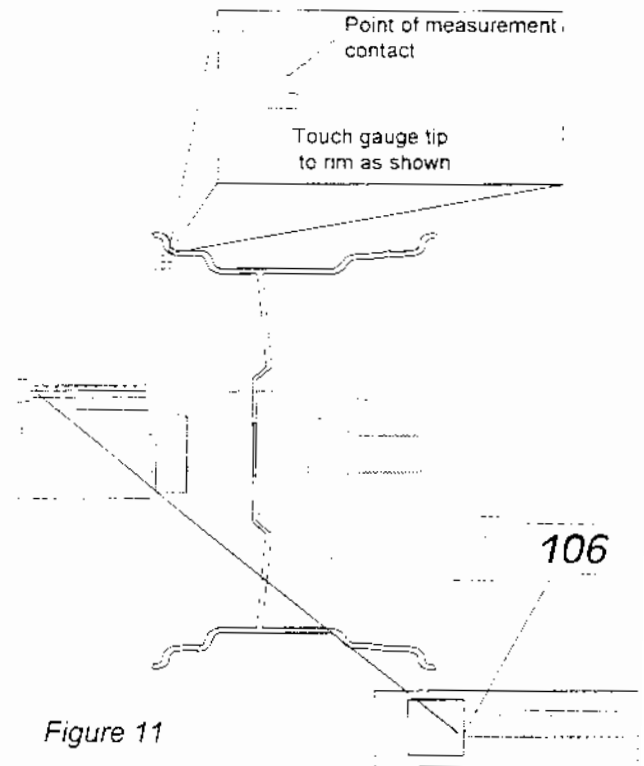

Figure 11
4. Determine the desired location of the tape-on weights. Using the distance gauge, measure the distance to the first (inside) weight location, see *Figure 11*. The value is recorded automatically on the 7.6. Enter the numeric value manually for model 7.5.